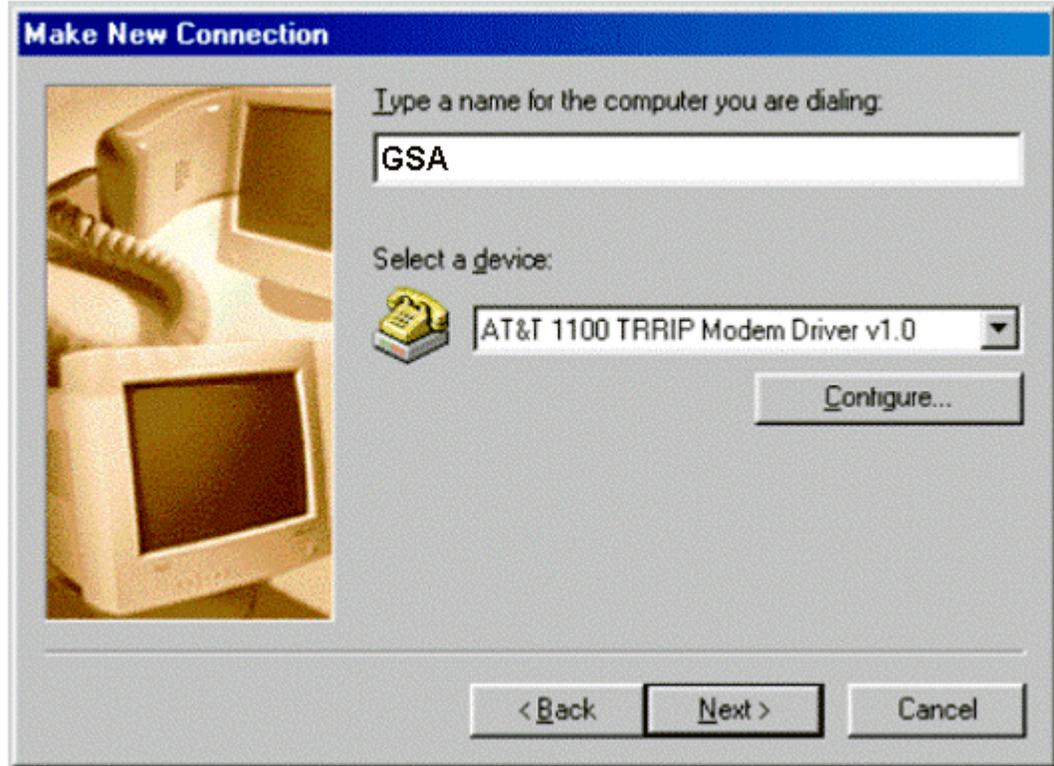

Figure 22 New Connection Setup
- Click **Next** (see Figure 22).